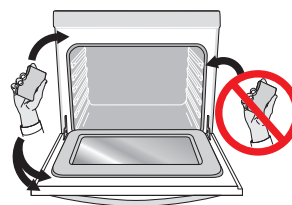

Figure 8: Hand clean oven door frame; avoid rubbing gasket.
- Clean any soil from the oven frame, the door liner outside the oven door gasket and the small area at the front center of the oven bottom. These areas heat sufficiently to burn soil on. Clean with soap and water. These areas are shown in white (See Figure 8).
- Do not clean the oven door gasket (See Figure 8). The woven material of the oven door gasket is essential for a good seal. Care should be taken not to rub, damage or remove the gasket.